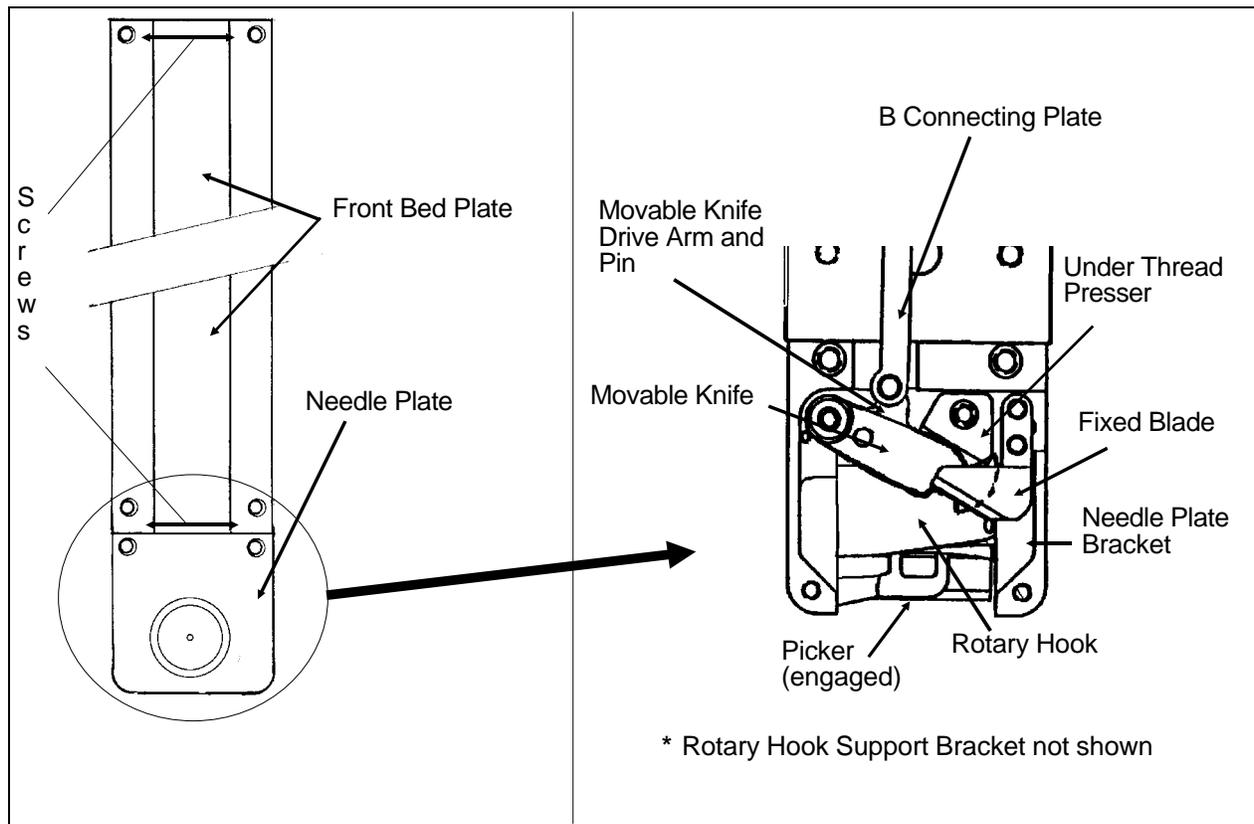

Fig. 4-5 Trimmer Component ID
1. Fig. 4-5, identifies those components that comprise the Trimmer; the Fixed Blade, Movable Knife and the Under Thread Presser. These components are covered by the Front Bed Plate and the Needle Plate, see inset in Fig. 4-5, remove the screws holding these covers. You may test the Trimmer adjustments without the covers in place, but they must be installed to embroider.
2. Using a small screw driver, carefully lift the B Connecting Plate from the movable knife's Drive Arm Pin. See Fig. 4-5. The B Connecting Plate should come off easily. Be careful not to bend the connecting plate using too much pressure when you raise it up.
4. After you are satisfied with the movable knife's cut, reattach the B Connecting Plate. See Fig. 4-5 .
1. If the Needle Plate and the Front Bed Plate are installed remove them (see Fig. 4-5).